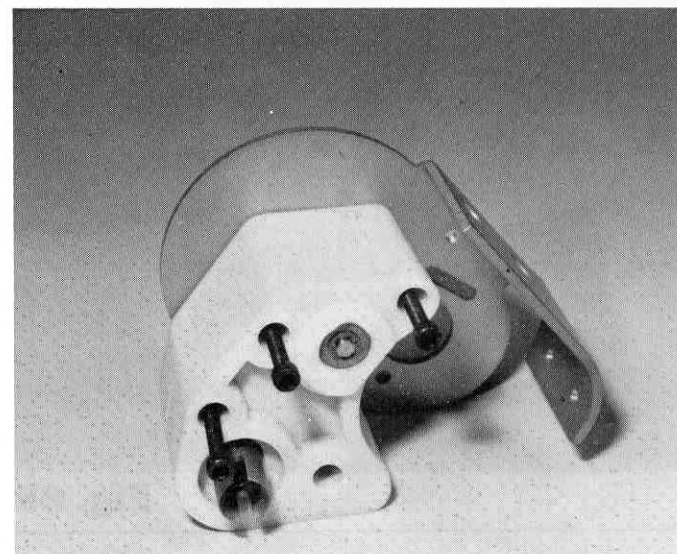

Fig. 92
□ **Fig. 92** Take the 3 long Allen screws, as shown, and screw them into the motor mount.